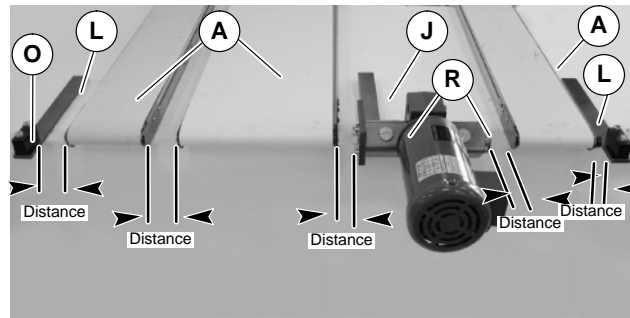
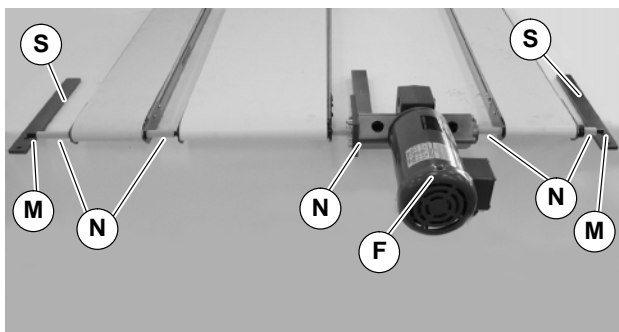

Figure 19
Figure 21
11. Align conveyors between gearmotor support assembly (J of Figure 19) and bearing support assembly (L).
NOTE: Do not secure the conveyors (A of Figure 19) to the mounting surface.
12. Cut shaft cover (N of Figure 21) into pieces to match each distance (Figure 19) minus 1.5mm.
15. Slide hex shafts (M of Figure 21) through conveyors and shaft cover pieces (N) on both sides of gearmotor assembly (F) and into flex couplings.